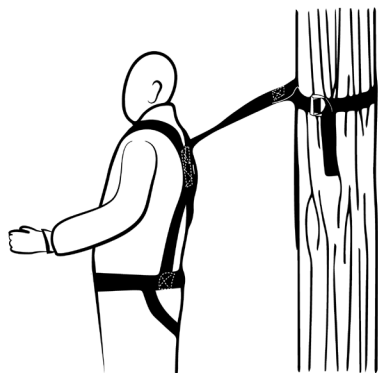

Figure 12
STEP 3: With the full-body fall arrest harness tree belt and tether installed as outlined previously, adjust the height of the tree belt so it is taut as shown in Figures 12 and 13. Please note, the tether length will vary depending on whether or not you are plan on standing or sitting during your use of this Millennium product. You must keep the tether length as short as possible at all times to minimize the distance you might fall in the unlikely event you experience a fall while using this Millennium product.